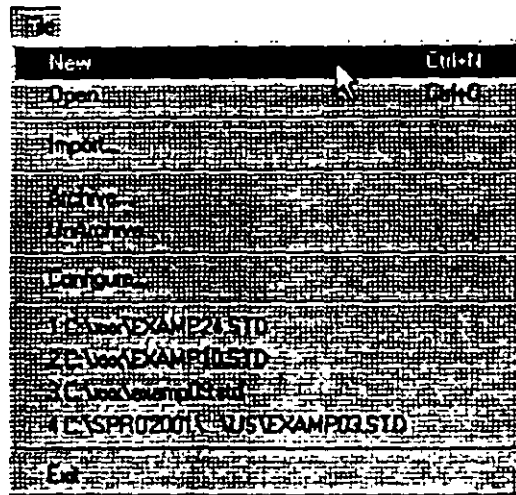

Figure 5.4
3. To create a new structure, click on the *File / New* option in the STAAD.Pro screen that opens (as shown in Figure 5.4).